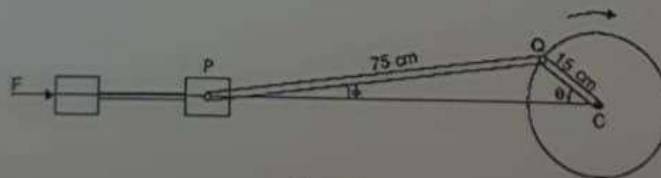

Figure 2.
- Q.3 A steam engine has a crank of radius 15 cm and connecting rod of length 75 cm as shown in Figure 2. The crank CQ rotates in a clockwise direction with a constant speed of 300 r.p.m. Calculate the velocity of the piston P at the instant when the angle $\theta = 30^\circ$. Also calculate the angular velocity of connecting rod. [5] CO2 H